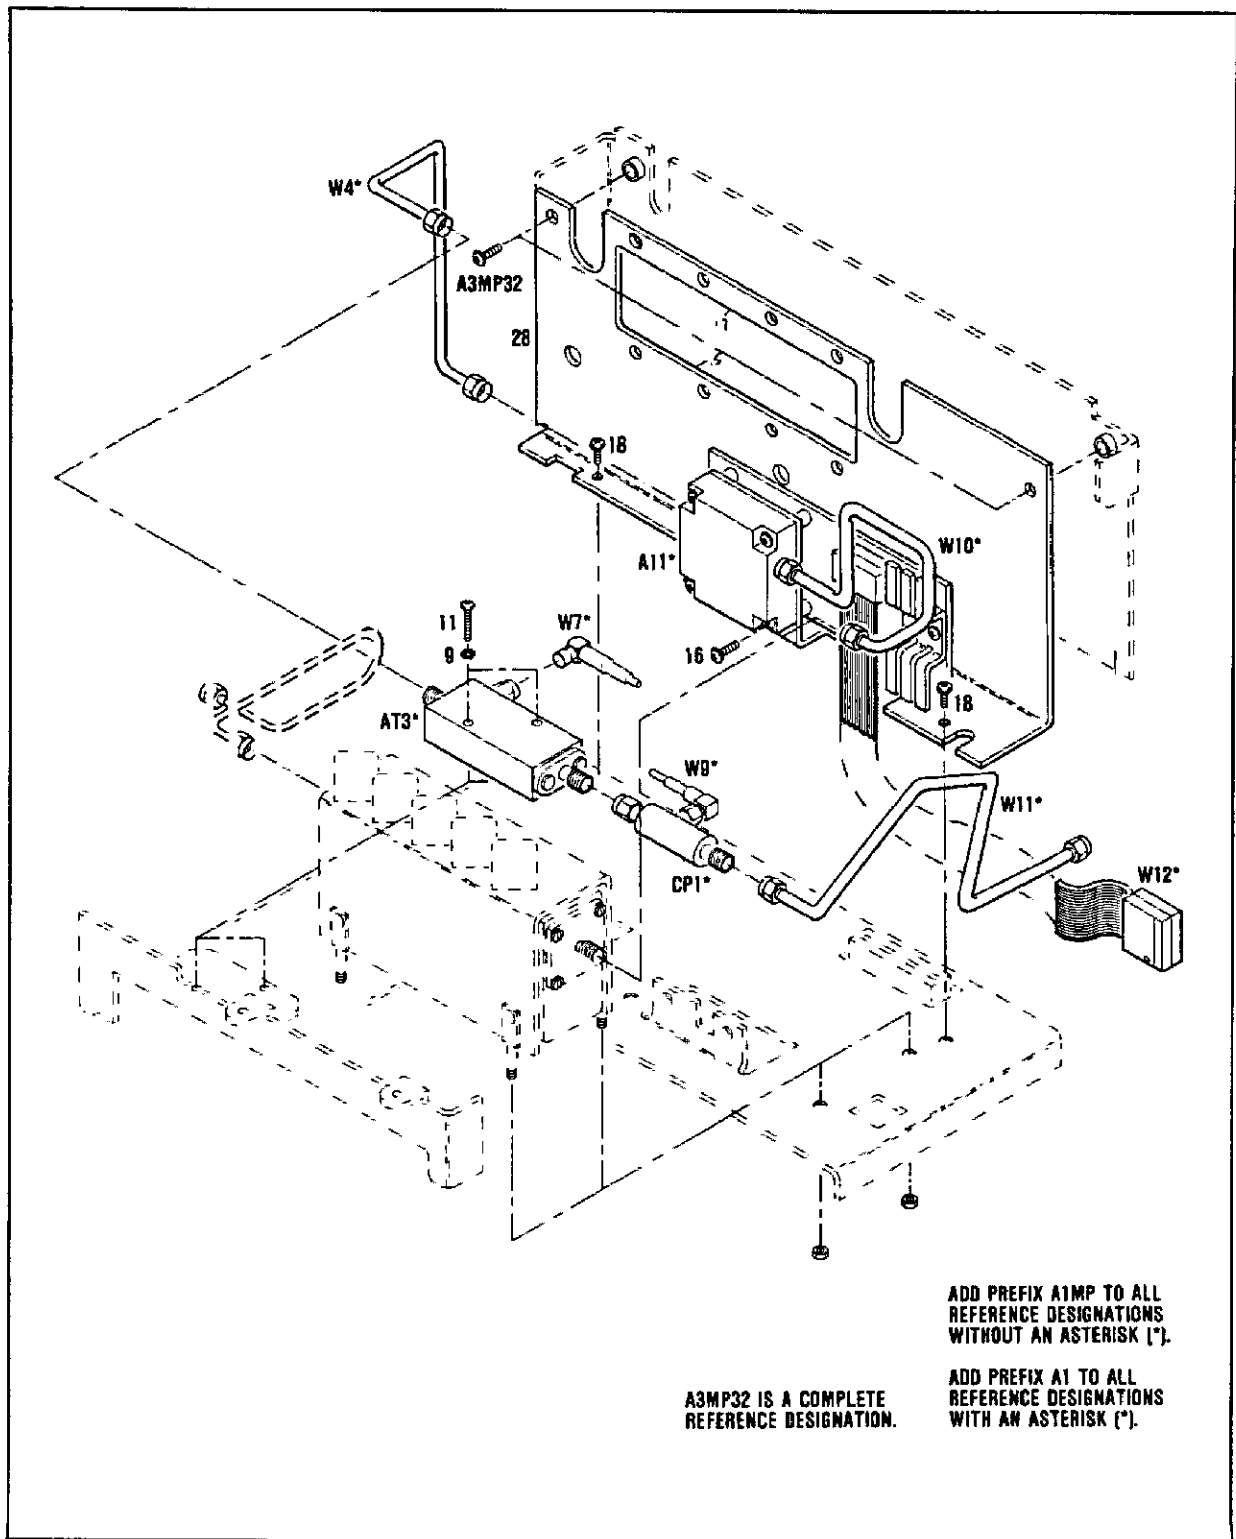

Figure 8-35. P/O A1, Microwave Signal Path Illustrated Parts Breakdown
1. Remove cable A1W4 from A1A11 (see figure 8-35).